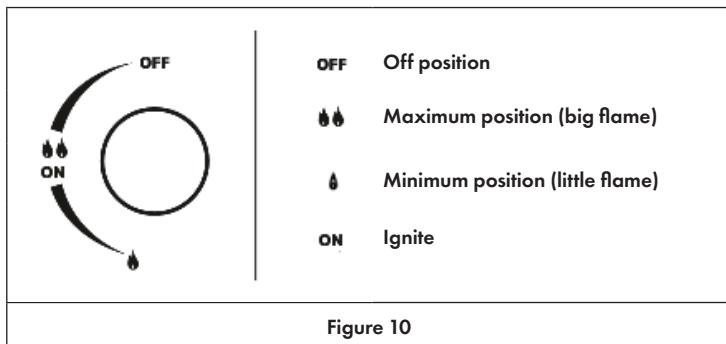

Figure 10
- Press and turn clockwise the knob corresponding to the burner you wish to use from "Off" position, until it reaches the "Maximum" position (corresponding to the big flame, see figure 10) and place a lighted match close to the burner.
- The command of lighting is integrated in the control knob. Press and turn anticlockwise the knob corresponding to the burner you wish to use from "Off" position, until it reaches the "Maximum" position (see figure 10) corresponding to the big flame. Automatically the ignition spark shoots. Keep the knob pressed until flame ignition. Matches can be used to light the burners in a blackout.